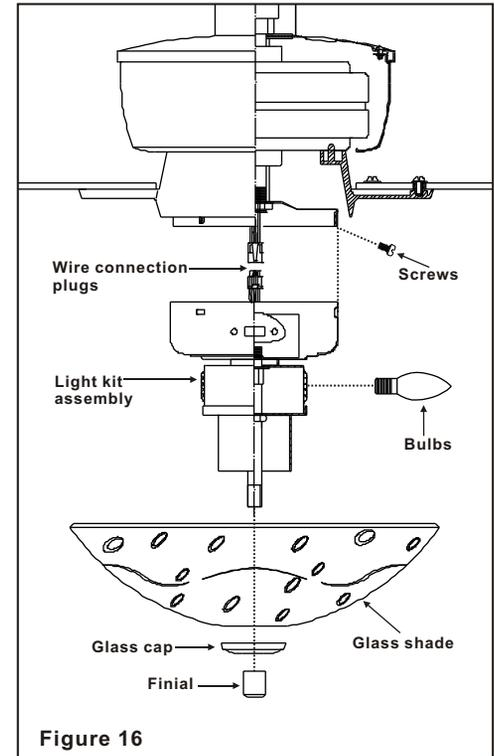

Figure 16
5. Carefully push all wires back into the switch housing, then install the light kit assembly onto the mounting plate with 3 screws provided. Be sure to tighten all screws. (Fig. 16)
6. Install 3 x40w candelabra bulbs (included). (Fig. 16)
7. Place glass shade over the light kit and secure it with the glass cap and finial provided. DO NOT OVER TIGHTEN. (Fig. 16)